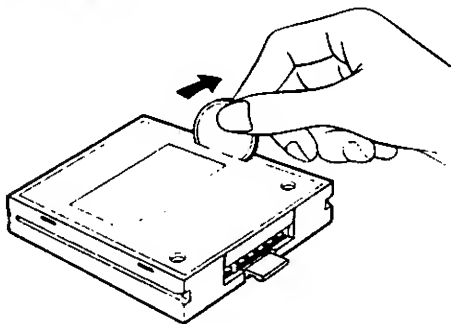

Figure 740-2 PC-8300 Battery Compartment Cover
2. Remove the cover of the battery compartment. See Figure 740-2.